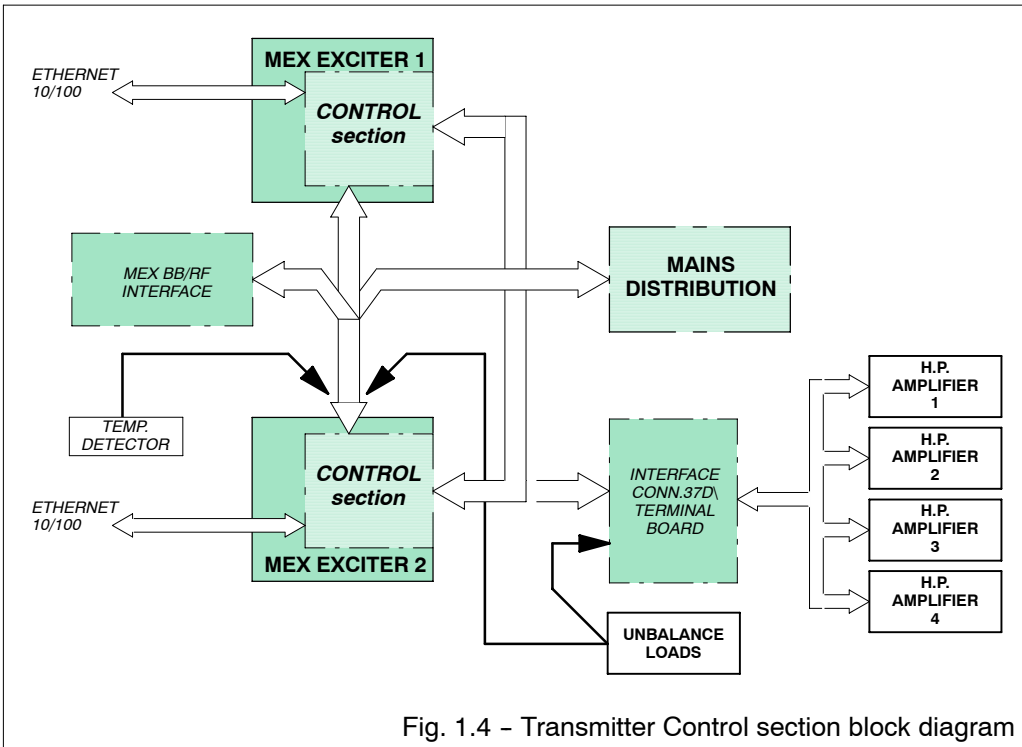

Fig. 1.4 – Transmitter Control section block diagram
- Fig. 1.4 block diagram of transmitter Control section;